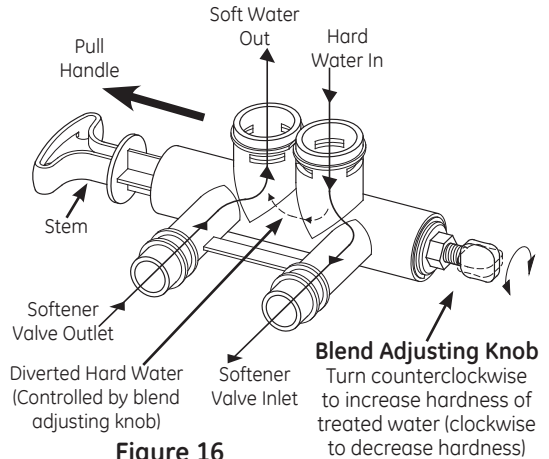
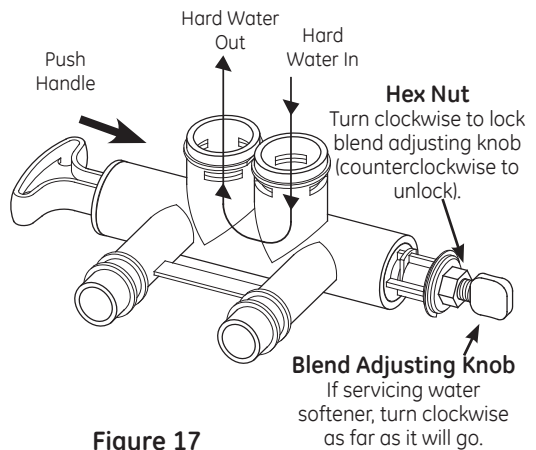

Figure 16
Figure 17
The blend adjusting knob (Figure 16) gives the ability to finely adjust hardness of the treated water leaving the water softener. If slightly harder water is desired than is normally delivered by the water softener, the blend adjusting knob can divert a small stream of hard water and blend it with the soft water entering the home. The amount of water diverted is controlled by turning a blend adjusting knob on the end cap of the valve stem.
1. Hold bypass handle to keep the valve stem from rotating (see Figure 16). Loosen hex nut on blend adjusting knob by turning the hex nut counterclockwise, (see Figure 17).
2. **TO INCREASE HARDNESS:** With the bypass in the service position (see Figure 16) hold the handle to keep the valve stem from rotating and turn the blend adjusting knob counterclockwise up to 2 turns from the closed position. It is recommended that adjustments be made in quarter turn increments over several weeks until the desired hardness is achieved. **NOTE:** Once an adjustment is made to the blend valve knob the change in water hardness at the homes faucets or shower heads may take several days to be noticed. This delay is due to the large amounts of already conditioned water in the pipes and water heater that must be exchanged before a change in hardness can be noticed. Have the water tested to determine the actual water hardness.
3. **TO DECREASE HARDNESS:** With the bypass in the service position (see Figure 16) hold the handle to keep the valve stem from rotating and turn the blend adjusting knob clockwise. When the knob will not turn anymore, hard water is no longer being blended into the soft water.
4. Once the desired hardness is achieved tighten the hex nut (see Figure 17) clockwise until it comes in contact with the bypass stem.